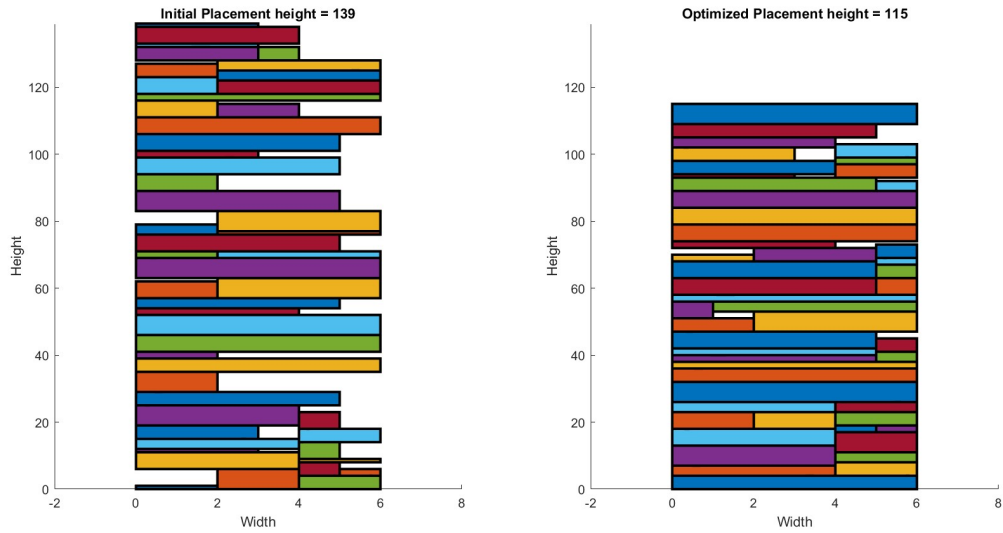
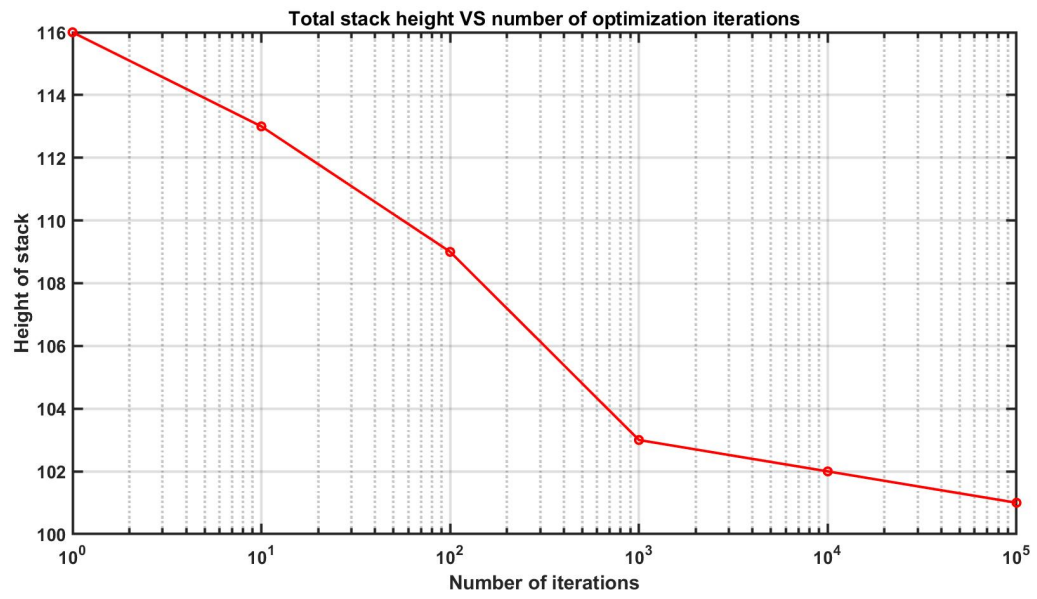

Figure 2: The optimization of N=50 rectangles with a width of W=6 with 1.000 iterations
Figure 4: Graph of the height vs log(iterations) during the optimization of  $N=50$  rectangles with a width of  $W=6$  with 100.000 iterations
**Results** Figures 2 and 3 show the original packing and the optimized packing for 1.000 and 10.000 iterations of optimizing, respectively. Figure 4 is a visualization of the optimization process showing how the total height lowers with each accepted configuration. Included in our code is an animation of the optimization process, just open the code and run it and it will pop up!